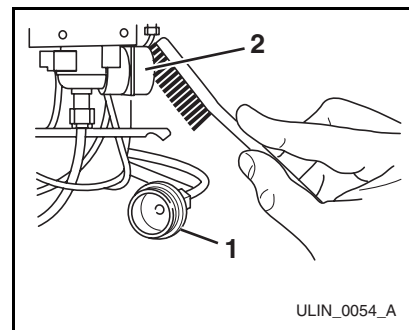

Figure 7
4. Disconnect the hose connector (**Figure 7, 1**) from the water solenoid valve (**Figure 7, 2**).
6. Re-connect the water supply hose connector (**Figure 7, 1**) to the water solenoid valve (**Figure 7, 2**). Tighten the connector securely.